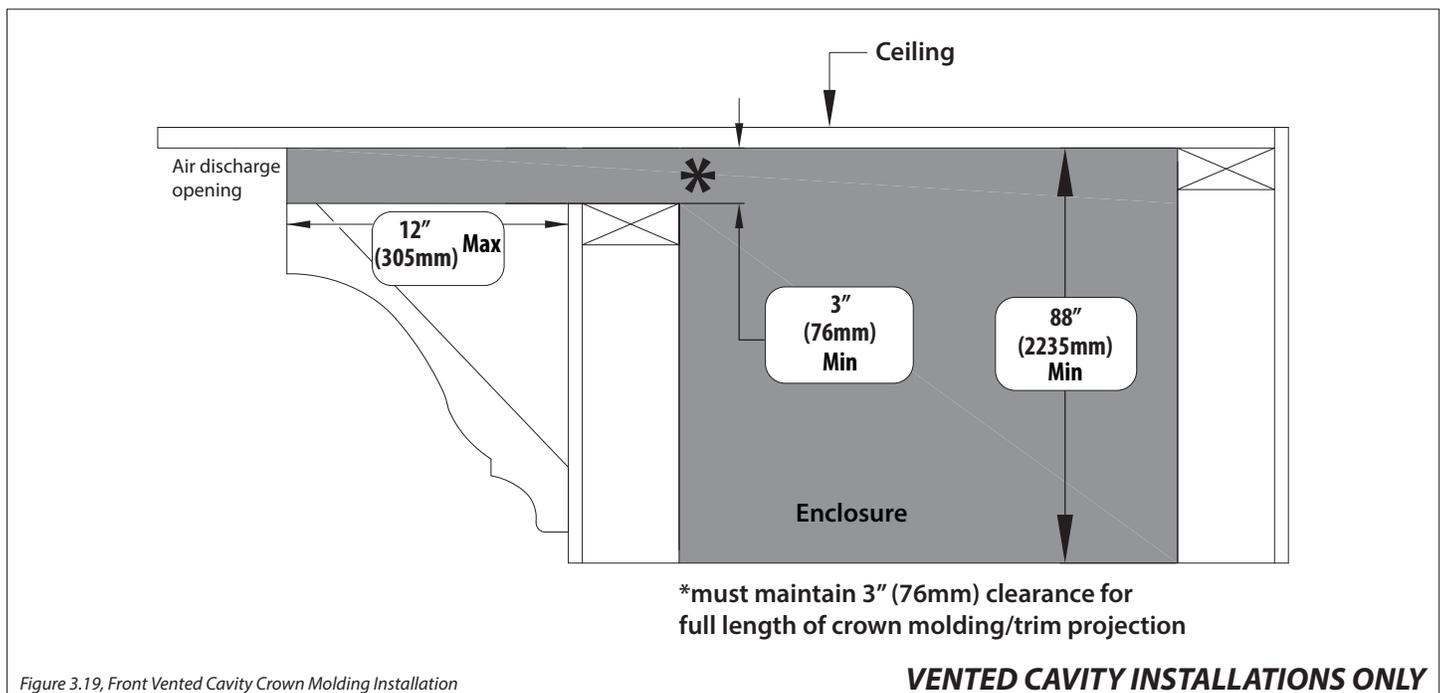

Figure 3.19, Front Vented Cavity Crown Molding Installation
- Figure 3.19 shows the installation of crown molding or similar trim work that goes up to the edge of the air discharge opening.